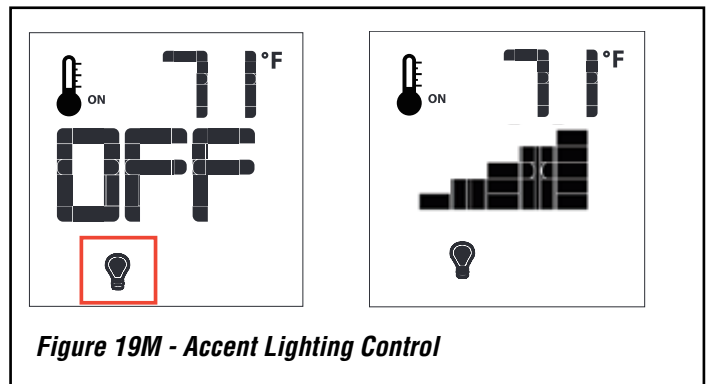

Figure 19M - Accent Lighting Control
The fireplace is equipped with warm white colored halogen accent lights. The lights can be controlled by the Proflame system. Light intensity can be adjusted through six (6) levels of brightness. To activate this function use the Mode Key to index the Light icon, see **Figure 19M**.
1. Pressing the Up Arrow Key will turn the lights on. Each time you press the Down Arrow Key, the lights intensity will reduce by one step (**Figure 19M**).